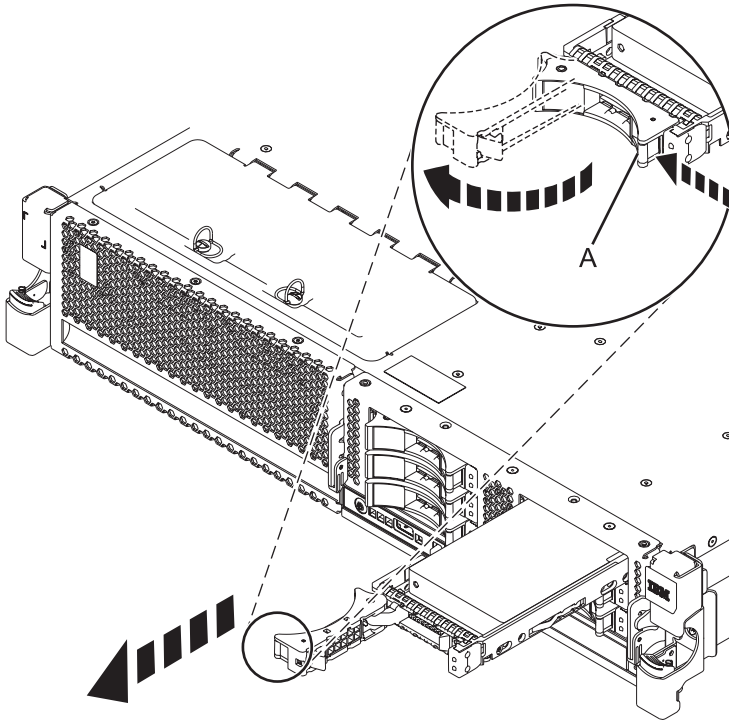

Figure 12. Removing a disk drive from the system
3. When the identify LED turns on solid, unlock the drive handle by squeezing it and pulling it out toward you, as shown in Figure 12 on page 24. If the handle is not all the way out, the disk drive or solid-state drive cannot slide out of the system or out of the expansion unit.